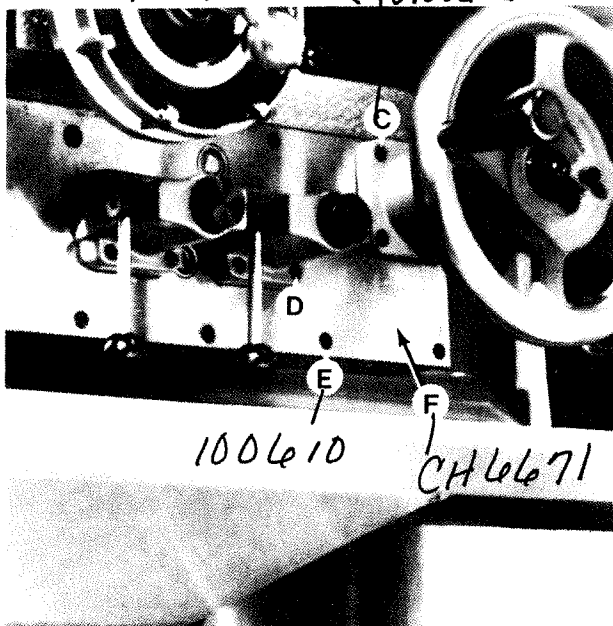
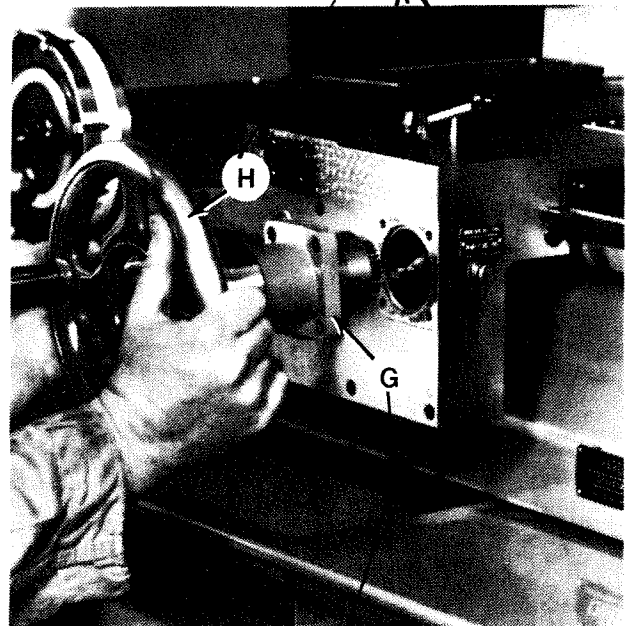

Figure 1.2 - Carriage Clutches and Handwheel
Figure 1.3 - Carriage Handwheel Removal
5. Remove four screws "C", Figure 1.2, and remove handwheel assembly "H", Figure 1.3 .
6. Remove eight screws "D", Figure 1.2, and the two clutch housings.
8. Remove nine screws "E" from apron cover "F", Figures 1.2 and 1.4 .